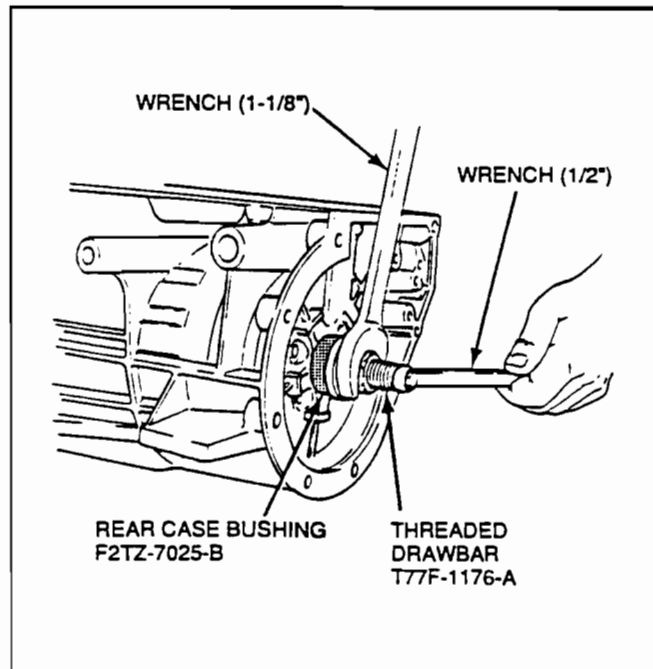

Figure 14
5. Hold the Drawbar with a 1/2" (12.7mm) wrench, while turning the nut with another 1-1/8" (29mm) wrench as shown in Figure 14.
6. Remove the front case bushing using Seal Puller and impact slide hammer as shown in Figure 14..